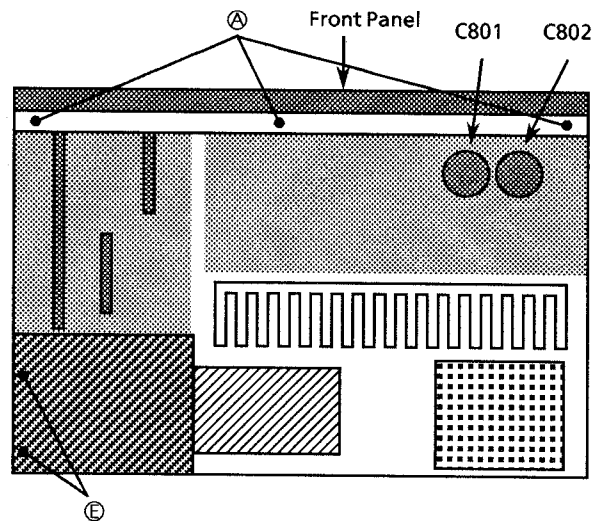
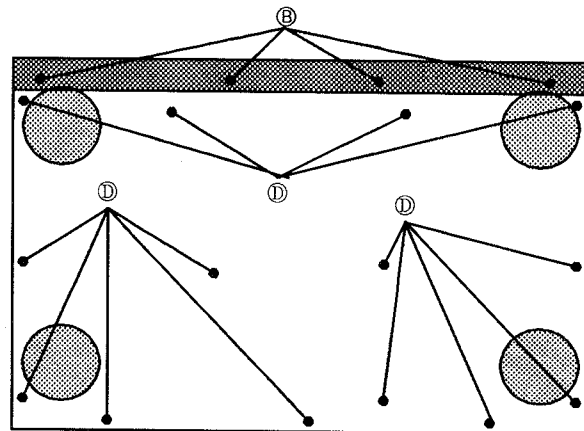

Fig 1. Top View
Fig 3. Bottom Cover
■ Removing the front panel (Fig 1, Fig 3)
2. Remove 3 plastic rivets (A) on the upper part of the front panel, and 4 screws from the lower part. (B),.
1. Remove 2 screws (C).
■ Removing the bottom plate (Fig 3)
1. Remove 14 screws (D).
● ENA-095 (Fig 1, Fig 3)